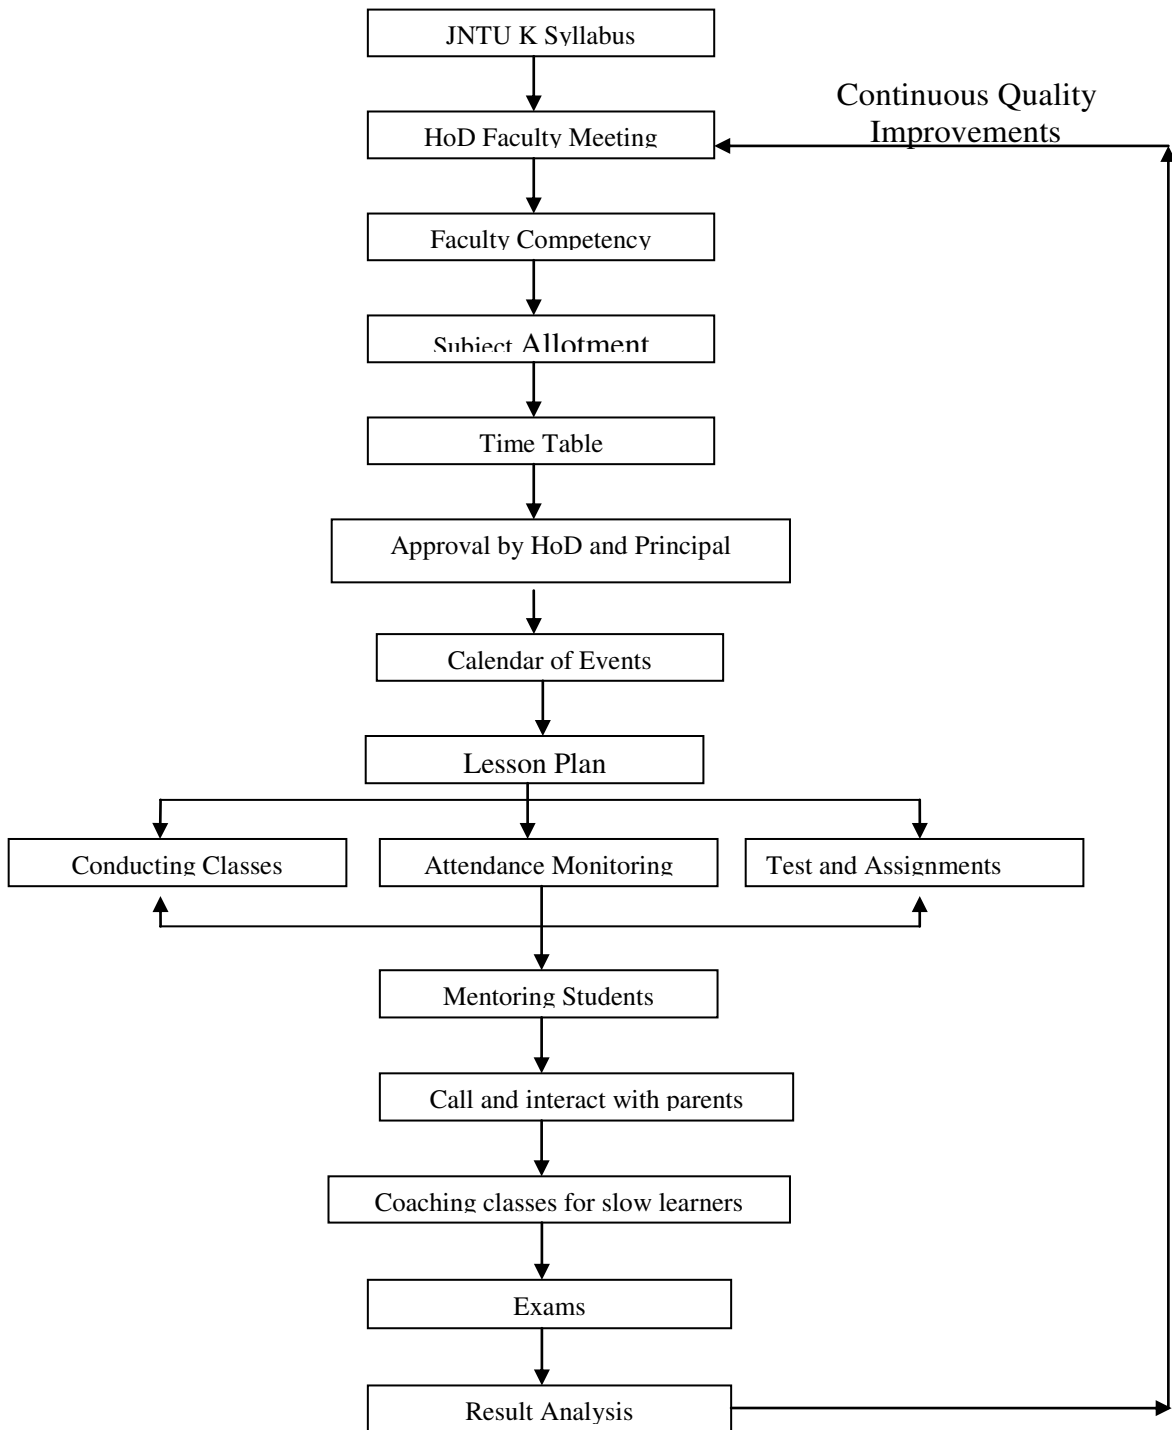

Figure 2.2.1: Teaching Learning Process
- The process followed to improve the quality of Teaching Learning in the Department for each semester is shown in Figure 2.2.1